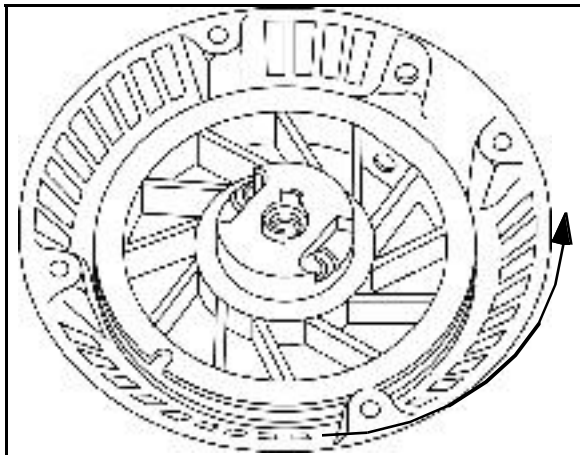

Fig. 8
3. Rotate pulley counterclockwise until slight resistance is felt, indicating that spring is engaged in spring tab, (Fig. 8).